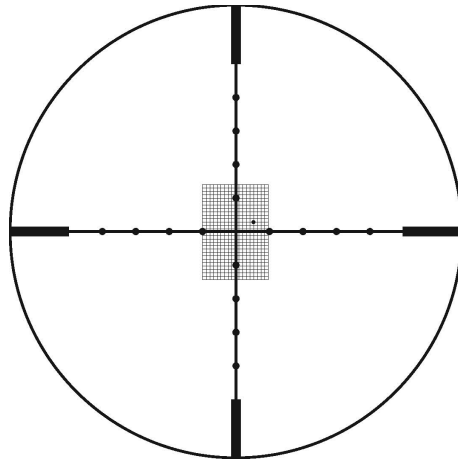

Figure 1.8 Using the grid pattern as well as holding the rifle while turning the windage and elevation drums leads to quicker more accurate one shot zeros.
5. You have fired one round. Low and behold, you have a hole in the target 5 grid squares to the right of the aiming mark and 3 squares high. Now you can simply hold the rifle steady while looking through the scope. Having the reticle centred on the aiming mark. Move the windage turret five 0.1 Milrad clicks to the left and watch the reticle move 5 squares to the right. Then moving the elevation turret down three 0.1 Milrad clicks watch the reticle move up three squares until the cross has met the bullet hole in the target. See Figure 1.8.